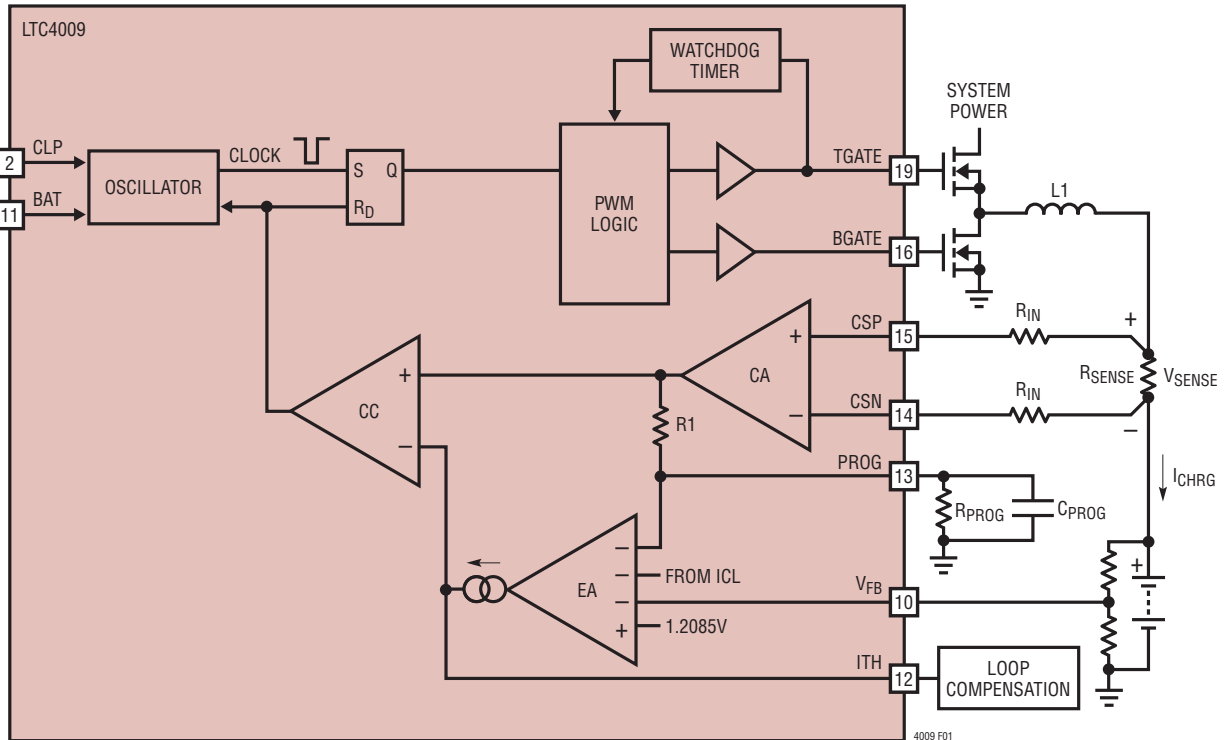

Figure 1. PWM Circuit Diagram
**CSN (Pin 14):** Charge Current Sense Negative Input. Place an external input resistor (RIN, Figure 1) between this pin and the negative side of the charge current sense resistor. Operating voltage ranges from (BAT – 50mV) to (BAT + 200mV).
**CSP (Pin 15):** Charge Current Sense Positive Input. Place an external input resistor (RIN, Figure 1) between this pin and the positive side of the charge current sense resistor. Operating voltage ranges from (BAT – 50mV) to (BAT + 200mV).
The LTC4009 is a synchronous step-down (buck) current mode PWM battery charger controller. The maximum charge current is programmed by the combination of a charge current sense resistor ( $R_{\text{SENSE}}$ ), matched input resistors ( $R_{\text{IN}}$ , Figure 1), and a programming resistor ( $R_{\text{PROG}}$ ) between the PROG and GND pins. Battery voltage is programmed either with an external resistor divider between FBDIV and GND (LTC4009) or two digital battery voltage select pins (LTC4009-1/LTC4009-2). In addition, the PROG pin provides a linearized voltage output of the actual charge current.
When the LTC4009 is charging, the voltage on the PROG pin varies in direct proportion to the charge current. Referring to Figure 1, the nominal PROG voltage is given by
The LTC4009 uses a synchronous step-down architecture to produce high operating efficiency. The nominal operating frequency of 550kHz allows use of small filter components. The following conceptual discussion of basic PWM operation references Figure 1.